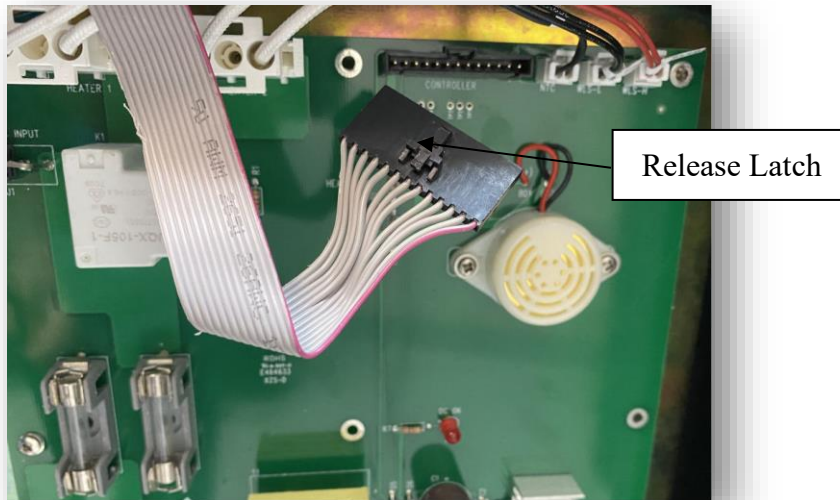

Figure 27 – Re-seat J6 Ribbon Connector
- ii. If the “Heater On” LED is *not* illuminated, remove power from the SCA. Re-seat (unplug and plug back in) the J6 Display Controller ribbon cable (**See Figure 27**) from the PCB. The latch must be released to remove the connector by pressing a thumb nail on the latch lever and wiggle the connector out of the socket. Skip to the next step (Step b).